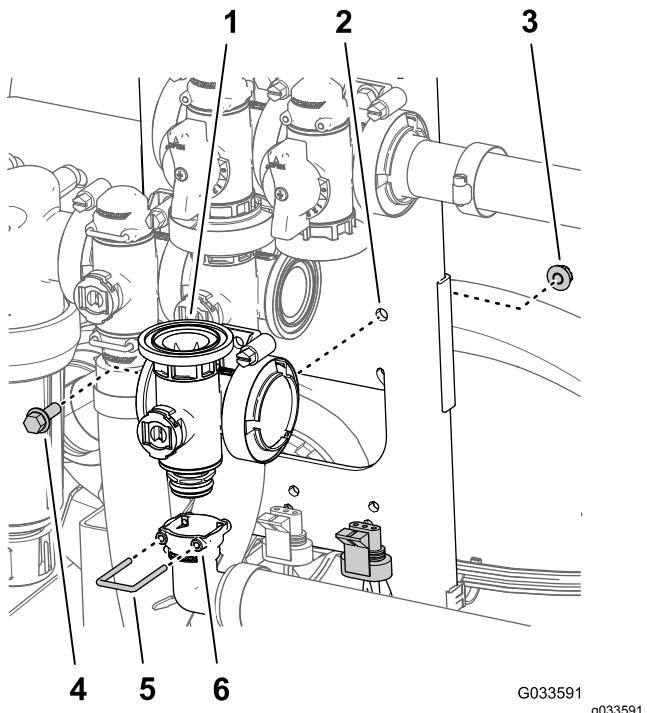

Figure 130
- Align the socket of the 90° outlet fitting onto the coupling fitting at the bottom of the manifold for the master-boom valve (Figure 130).
6. Secure the outlet fitting coupling fitting by inserting a retainer into the socket of the outlet fitting (Figure 130).